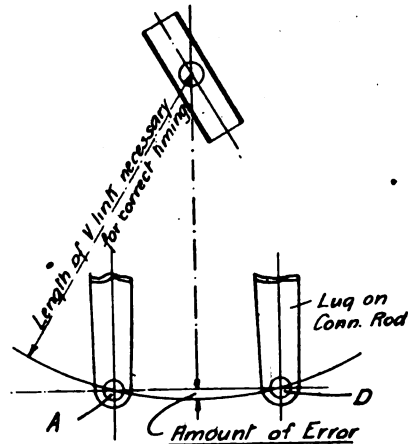

FIG. 12.—SHOWING ERROR DUE TO ANGULARITY OF LINK.
(4) The valve rod should be as long as possible to reduce the effects of the straight slides on the movement of the valve. Against this, however, it will be noticed that if a smaller vertical movement is given to the slide blocks by placing the lug nearer to the little end, and to obtain the required port opening the angle to which the reversing shaft is tilted is increased, a better movement of the valve is obtained. But this is only another case of losing on the swings and gaining on the roundabouts.
(5) The maximum length of vibrating link should be obtained.
(6) The port bar should be wide with ports 1-16th in. in width, adopting 3-32nds in. port bars. The larger valve necessary is no practical detriment to the working of the engine. Several of the above recommendations are only worth troubling about when the cylinders are already made, and where the port bars are very small.
(7) Do not add the whole error due to angularity to the length of the vibrating link. If in swinging from point A to point D (Fig. 12) the versed sine of the arc (which is the amount of the error) works out at 3-64ths in., then knock off the odd 1-64th in. and only add 1-32nd in. to the theoretical length of the vibrating link. The valve opens and closes so quickly so that the alteration in timing is unnoticed, whilst the effect on the port openings is considerable.